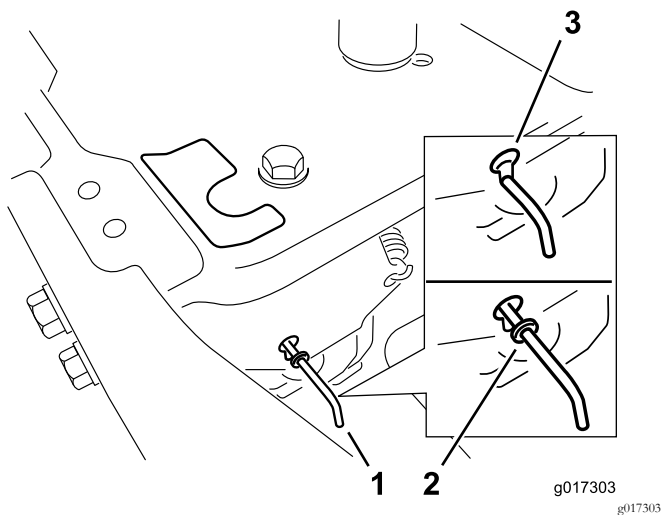

Figure 33
4. Move the bypass levers forward through the key hole and down to lock them in place (Figure 33).
Move the bypass levers rearward through the key hole and down to lock them in place as shown in Figure 33.